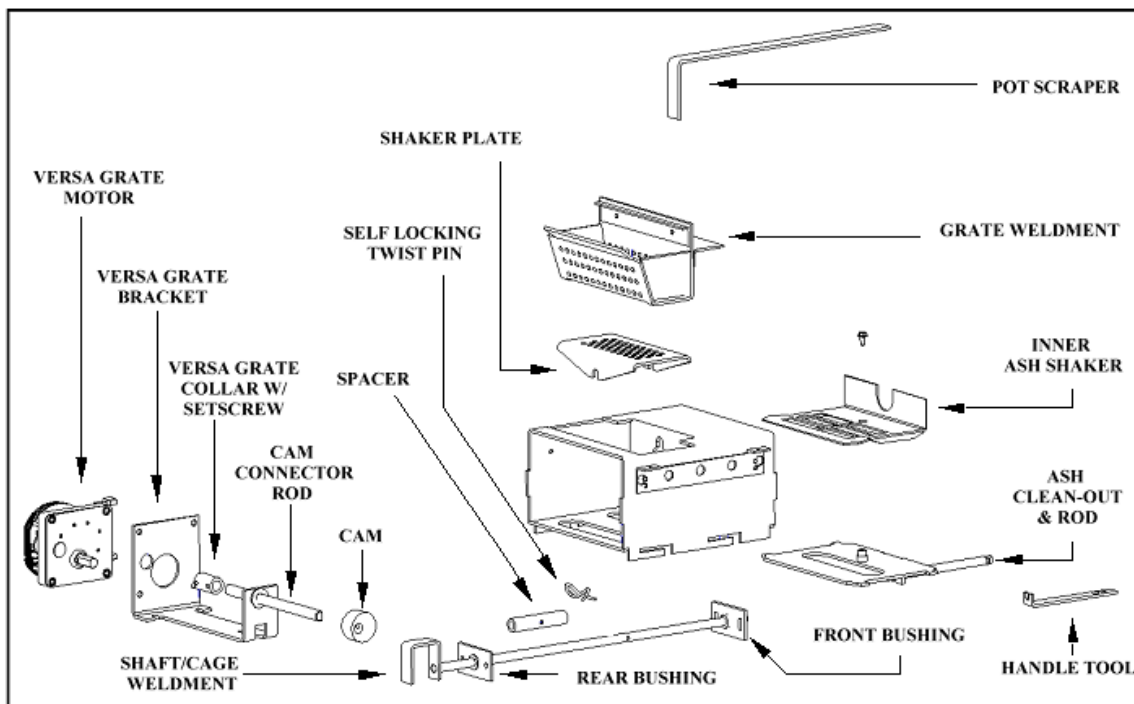

Figure 6
**The Versa Grate System** (see Figure 6 below). The benefit of this feature is that the stove can operate for longer periods of time, with most
1. Check Grate Weldment and Shaker Plate (See figure 6) to determine if holes are plugged. Clean as needed. With proper precautions the grate may be partially cleaned while the stove is hot. Follow these steps:
2. Remove ash buildup under the grate bottom daily or as frequently as needed. Clean the ashes out from under the burn pot by pulling the Ash Cleanout Rod in and out several times (see Fig. 6) Use the Rod Pull Tool with the Ash Cleanout Rod. This tool is hanging on a screw on the back of the stove; this provides a convenient location to keep the tool in reach and prevent it from getting lost.
3. Check ash pan (See Fig. 6) to determine emptying frequency needed. NOTE: Do not use a vacuum cleaner for this purpose. Hot coals may cause your vacuum filter to catch fire. Place ashes in a metal container with a tight fitting lid. The closed container of ashes should be placed on a noncombustible floor or on the ground, well away from all combustible materials, pending final disposal. If the ashes are disposed of by burial in soil or otherwise locally dispersed, they should be retained in the closed container for at least two days until all cinders have thoroughly cooled.
Use scraper shown in figure 6 & 7 to scrape ash into ash pan. Use a vacuum (cold stove only) to thoroughly clean these areas.
3. Clean burn grate holes at least weekly. Remove the burn grate and use a small metal object to clean out plugged holes. (See fig. 6 on page 12)